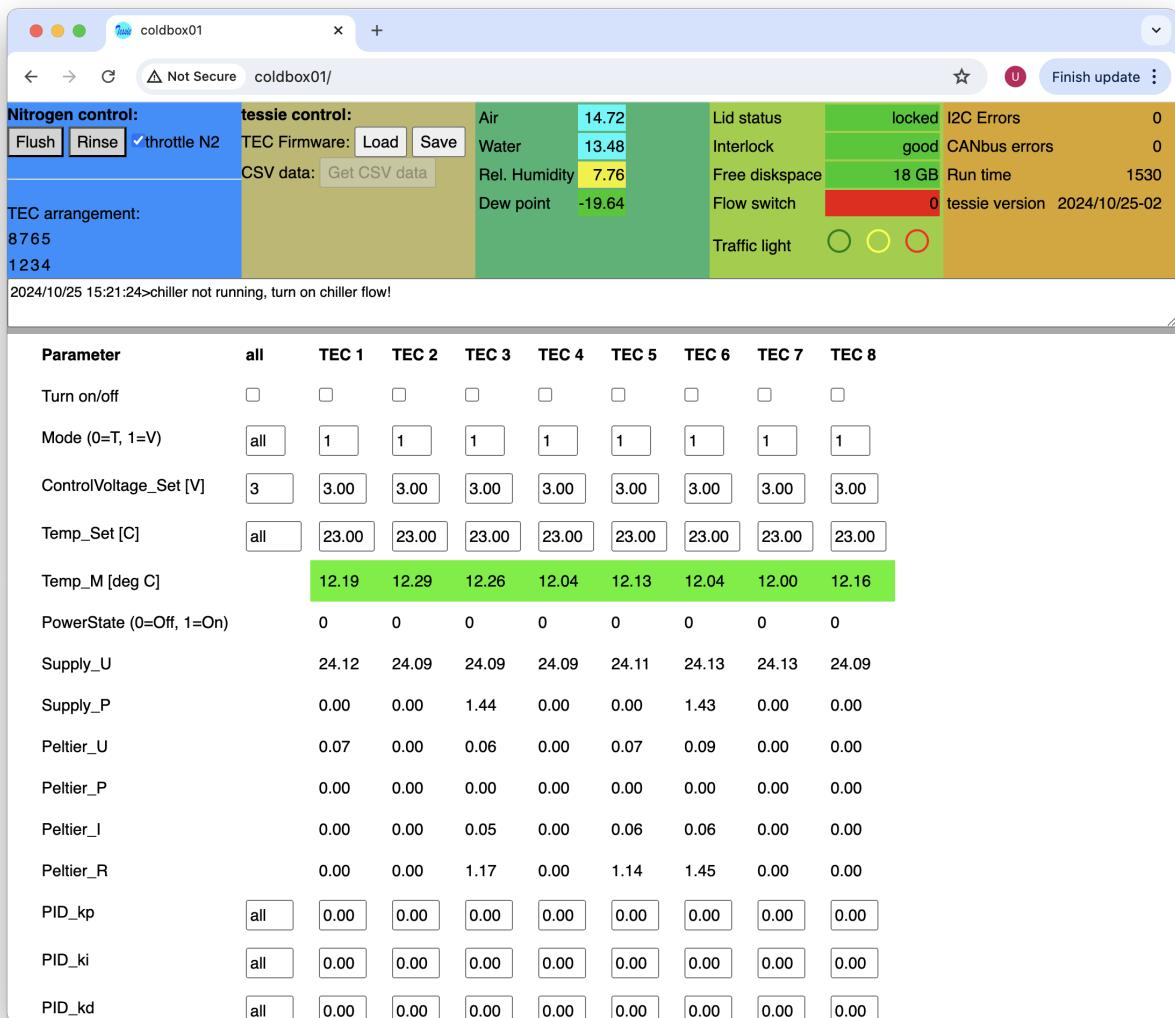

Figure 8: Web graphical interface to **tessie**. The top right brown-yellow box will turn red in case the connection to **tessieWeb** is interrupted.
The normal manual way to interact with `tessie` is through a webbrowser. Point your favorite browser to `http://coldbox03`, cf. Fig 8.
Figure 7: The GUI appearing on the Raspberry Pi touch screen. The interaction possibilities are limited to (1) controlling the N2 flow with **Rinse** and **Flush**, (2) stop operations with "STOP ALL" which will turn off all TECs, turn on maximal N2 flow by opening both the rinse and flush valves, and breaking the HV/LV interlocks, (3) resetting the interlocks, (4) "Quit"-ing the program, and (5) sound the test alarm. The **Rinse** and **Flush** buttons will have a greenish background color when these valves are open and N2 is flowing. Their font is white in case N2 throttling is active and black in case it is not. For full control of **tessie** you should use the web interface shown in Fig. 8.